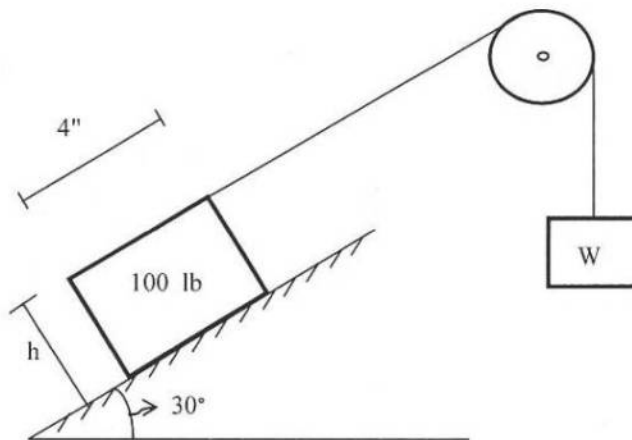

Figure 6
12) Determine the value of 'W' and 'h' so that the 100-lb block shown in Figure 6 is on the verge of both sliding up the plane and tipping. The coefficient of friction between the rope and the fixed drum, as well as between the block and the plane, is 0.2. The rope between the weight and drum is parallel to the plane.